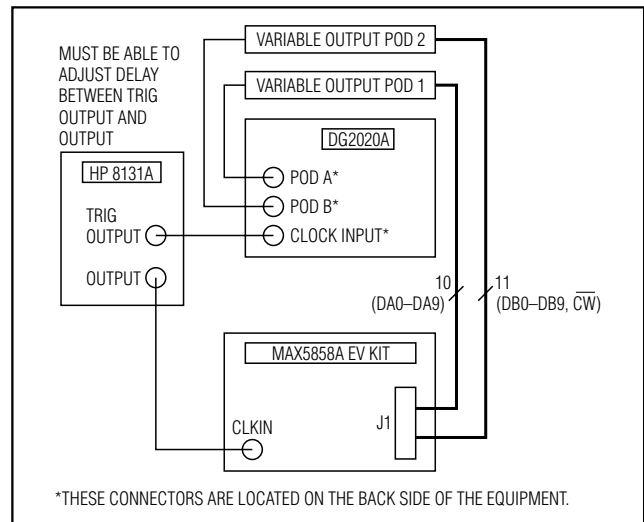

Figure 2. MAX5858A EV Kit Quick Start Setup for PLL Enabled Mode
**Do not turn on power supplies or enable signal generators until all connections are completed (Figure 2):**
- 8) Connect the TRIG OUTPUT (clock synchronize signal) of the HP 8131A to the clock input on the back side of the data generator (Sony/Tektronix DG2020A). (See Figure 2 for the equipment setup connections.)
- 11) Connect data generator POD A to the first variable output POD (1). Connect output channels CH9 through CH0 of the variable output POD 1 to the MAX5858A EV kit connector J1, as indicated in Table 10.
- 12) Connect data generator POD B to the second variable output POD (2). Connect output channels CH9 through CH0 of the variable output POD 2 to the MAX5858A EV kit connector J1, as indicated in Table 11.